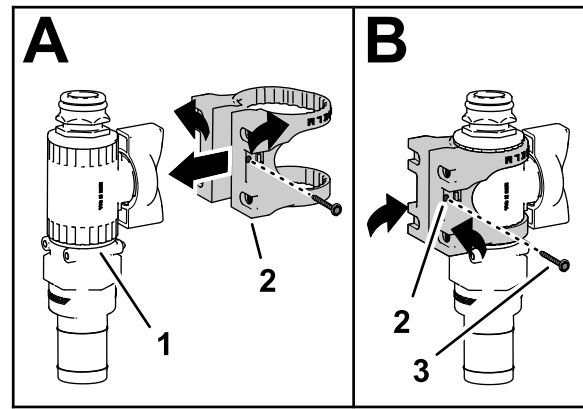

Figure 32
3. Assemble the valve mount onto the control valve as shown in A of Figure 32.
4. Secure the valve mount to the control valve with the flange-head screw (#6), and tighten the screw by hand (B of Figure 32).